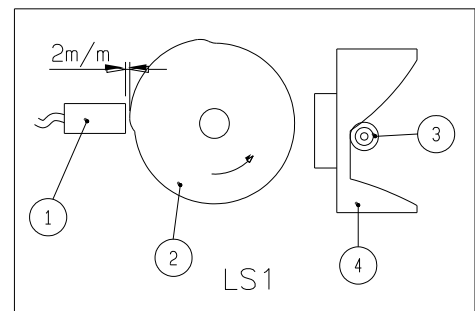

Fig.5.5
LS1: It (①) functions as a start point of heating-strap period (the welding cycle). When LS1 activates, main shaft stops running. Front clamp bar stops at the highest point to stuck the PP strap in the lower position of upper slide. The guide strap pool moves backward and the left strap way opened. Meanwhile, the strap starts reverses. The arm shaft (③) stops at the starting point of ④. That is, we use the limit switch ② to control the activation of LS1(See Fig.5.5).